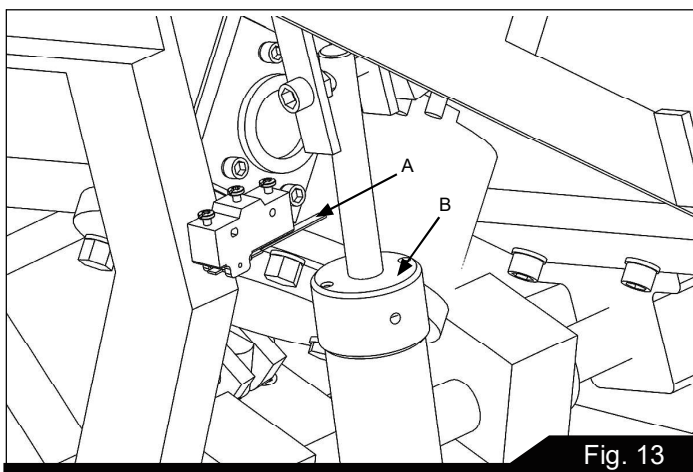

Fig. 13
Each machine and any accessories which are wired into the electrical system are controlled by the start-stop buttons. The machine will automatically shut off when the cut is completed. The lever (A) Fig. 13, for the automatic shut-off, contacts the top of the hydraulic cylinder (B) and shuts off the machine.
2. Turn cover (B) shown in Fig. 13 counterclockwise, then fill hydraulic oil or equivalent until it is full.